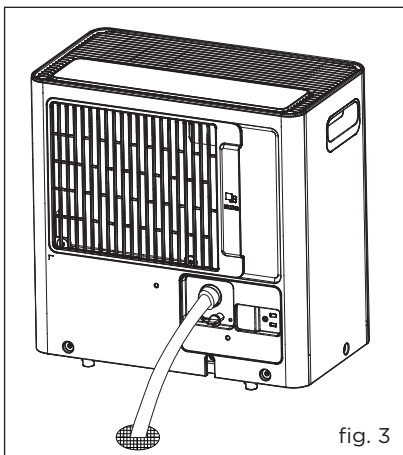

fig. 3
- g. Place the end of the hose into the drain. (fig.3)